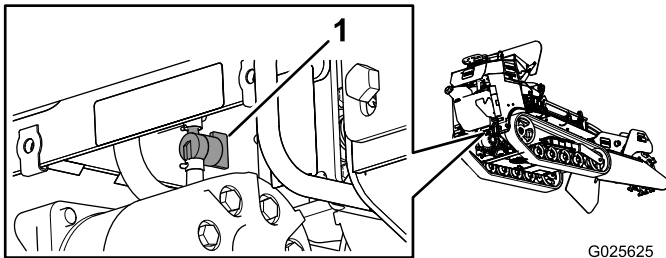

Figure 39
5. Turn the fuel-shutoff valve (Figure 39) to the closed position.